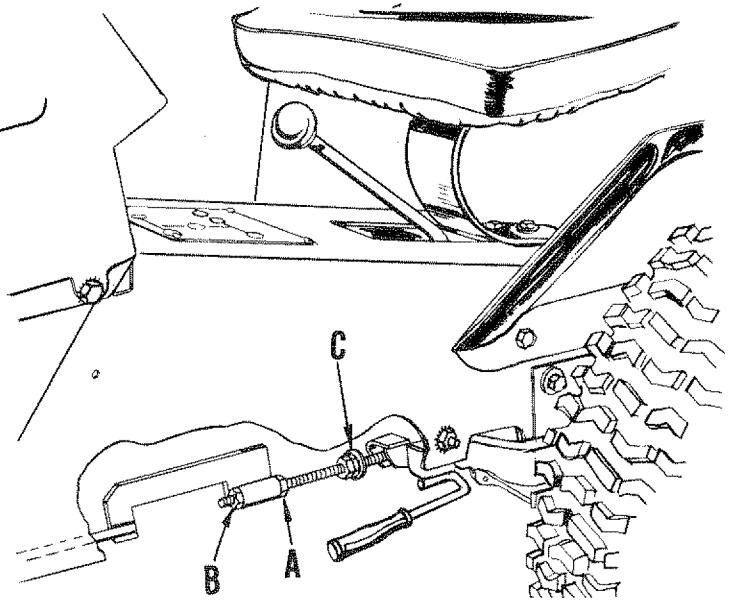
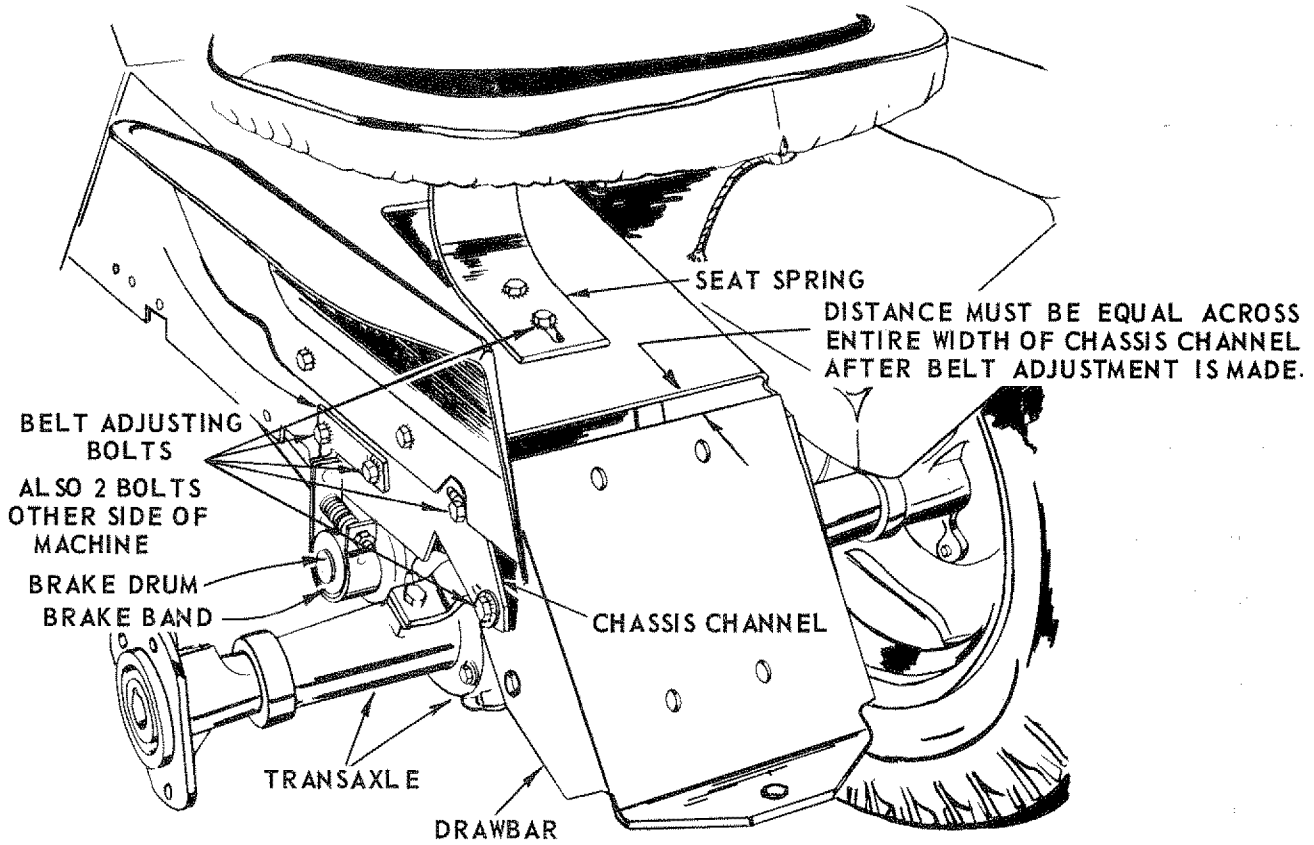
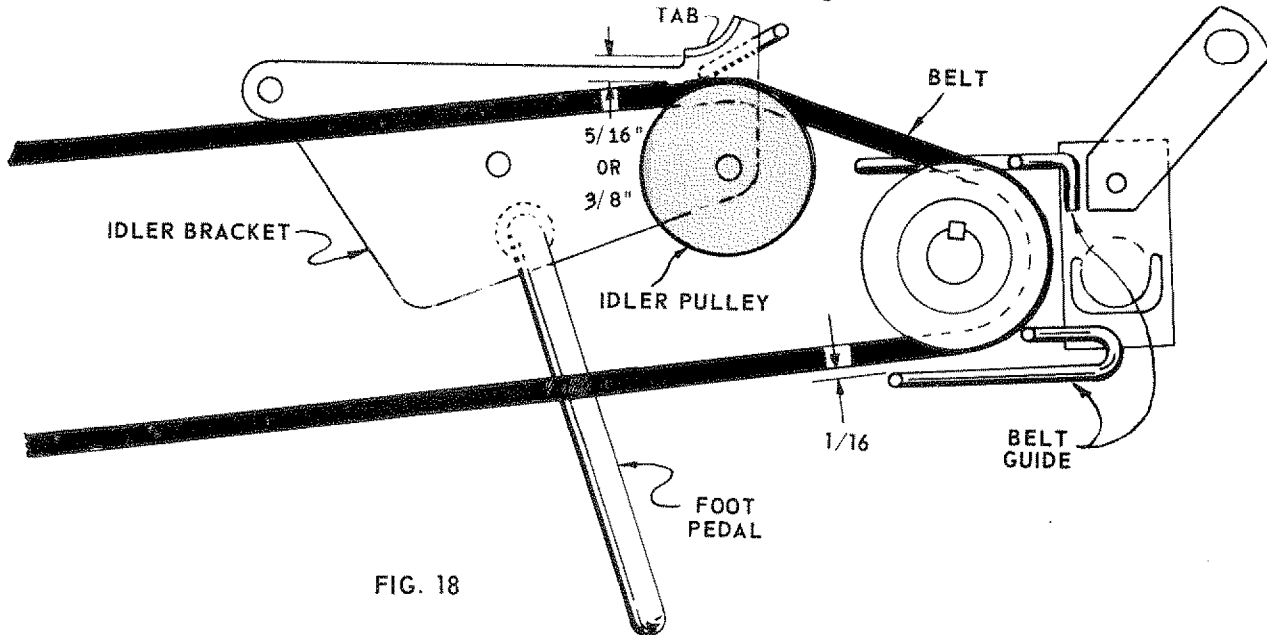

FIG. 15
FIG. 17
FIG. 18
To adjust brake, turn rear nut (A, Fig. 15), on brake rod. Then turn front nut (B, Fig. 15), about 1 turn at a time until finger on idler bracket holds belt straight or deflects belt not more than  $1/8''$ , when foot pedal is fully depressed, (pushed forward), and brake band makes solid contact with brake drum. NOTE: Belt must be straight or deflected slightly when pedal is depressed for clutch to release properly. Check belt guides at engine pulley. Guides must clear belts by  $1/16''$  when clutch is engaged. Refer to Fig. 18.
The flanged nut (C, Fig. 15), is adjustable forward or backward so that parking brake lock assembly will hold brake full or when parking brake is pushed down (locked position). Tighten jam nut against flanged nut to lock flange nut in position.
1. Loosen bolts holding transaxle and brake to chassis channel. (Total eight) Two on each side in chassis and drawbar, two in L.H. chassis side and brake bracket, two in seat spring and chassis. See Fig. 17. Also, loosen front nut (B) on brake rod. Refer to Fig. 15.
2. Depress foot pedal and place a  $3/8$ " block between tab on idler bracket and belt as shown. (If  $3/8$ " block is not available a common lead pencil can be used which is about  $5/16$ " round). See Fig. 18. Pull drawbar and transaxle assembly to rear, Fig. 17, until foot pedal just starts to move forward, Fig. 18. Tighten bolts in R.H. chassis channel side and drawbar. Be sure space between drawbar and chassis, Fig. 17, is equal on both sides and tighten L.H. bolts and seat spring bolt securely. If spacing between chassis and drawbar is not equal tractor will not track properly.
5. Check belt guides at engine pulley. Belt guides must clear belts by 1/16 inch when clutches are engaged. See Fig. 18.